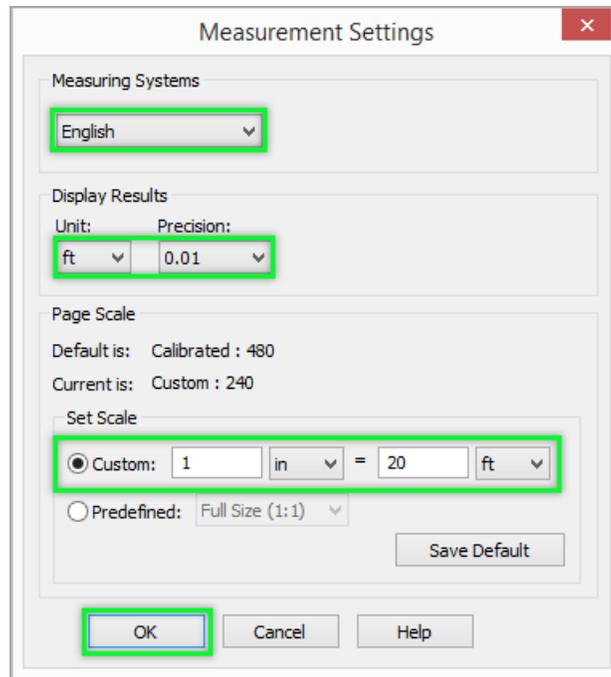

Figure 12.3 Setting Custom Scale
- 4) The **Measurement Settings** dialog will appear as shown in Figure 12.3 Setting Custom Scale.